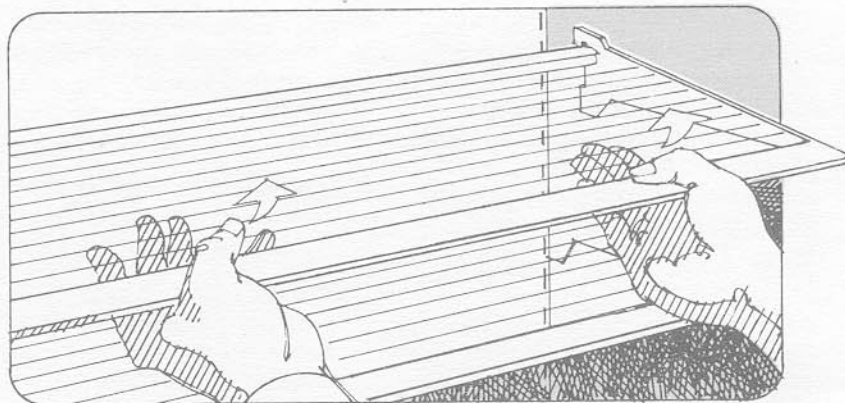

Figure 6
**To remove or adjust shelves,** tilt the shelf up at the front, then lift up and out of tracks on rear wall of refrigerator or freezer as shown in Figure 6. **Note:** If door is only allowed to open 90°, in order to clear door shelves, lift and tilt right end of shelf up and left end down, and lift out clearing door shelves.